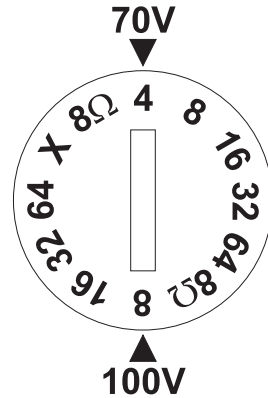

Figure 14: Adjust Tap Selector
Step 7: Adjust Tap Selector (Figure 14)